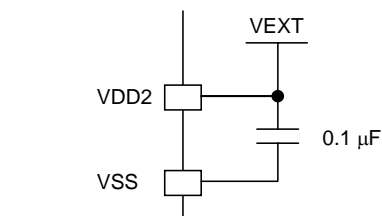

Fig. 2
- When the external supply voltage $V_{EXT} = 1.8\text{ V}$ to 3.6 V , connect VDD2 to V_{EXT} directly as shown in Fig. 2.